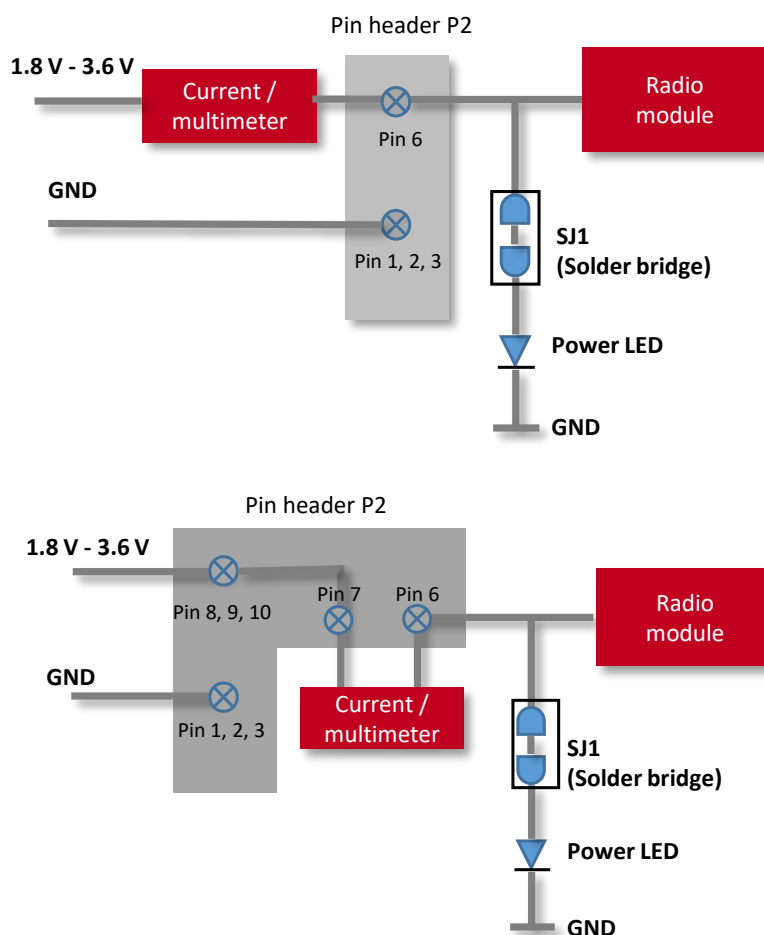

Figure 11: Power supply corresponding to table 25 No 3
1.8 V-3.6 V is connected either directly to Pin-6 (V_{DD_MOD} / V_{IN}) and the current is measured in series as illustrated in the upper picture of Figure 11.
Or it is connected to Pin 8-10 ($V_{EXT} / SUPPORT PINS$) and the current is measured on header P2 Pin 7 ($V_{EXT} / SUPPORT PINS$), which is internally connected with Pin 8, 9, 10 to Pin 6 (V_{DD_MOD} / V_{IN}) as illustrated in the lower picture of Figure 11. With SJ1 open the LED is not lighting but the current is measured corrected.